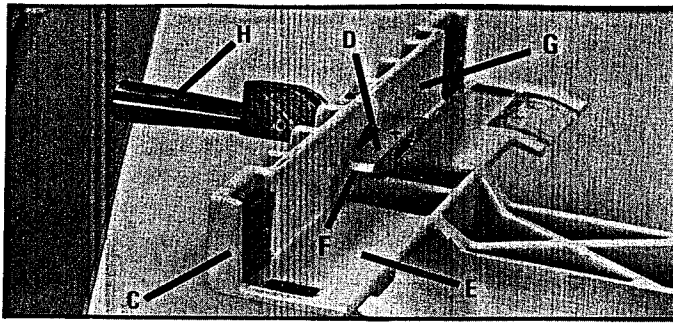

Fig. 35
1. Turn fence body (C) Fig. 35, upside down and lay it on a table or bench. Push handle (H) in against fence body. Before assembling fence body to guide rail make sure that the surface (D) of the clamp bracket is parallel to the face (E) of the fence body and that the inside edge (F) of the clamp bracket is parallel to the surface (G) of the fence body. Turn handle (H) Fig. 35, if necessary.